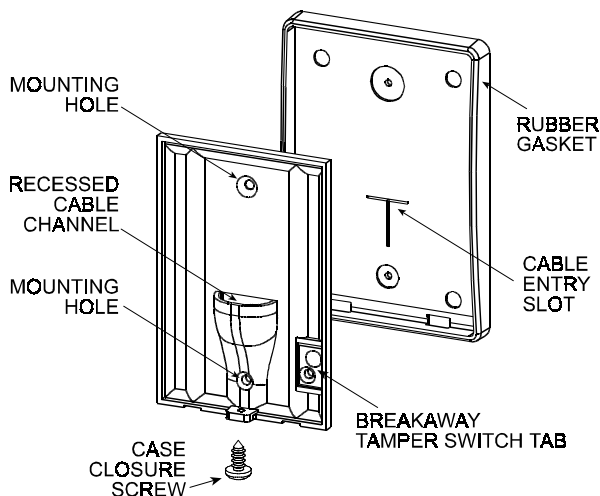

Figure 1. Base and Rear Sealing Gasket
**Note:** The Tamper switch will be activated if the front part of the keypad is removed and also if the base is forced away from the wall. This is achieved by incorporating a breakaway tab at the bottom right corner of the base (see Figure 1). It is therefore especially important to firmly attach this tab to the wall with a long screw.